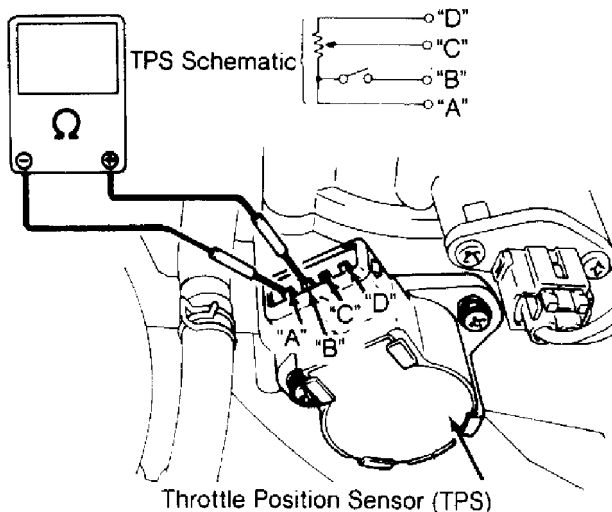

Fig. 15: Throttle Position Sensor (TPS) Term. ID (Swift SOHC Shown; Sidekick MPI Is Similar)
Disconnect negative battery cable. Unplug TPS connector. Using ohmmeter, check resistance between terminals of TPS connector. See Fig. 15. If idle switch check is not within specification, adjust TPS installation angle. See THROTTLE POSITION SENSOR (TPS) RESISTANCE table. Replace TPS if it cannot be adjusted to specification.
1) Unplug TPS connector, and loosen TPS mounting screws. Insert .024" (.60 mm) shim thickness gauge between throttle lever and throttle stop screw. Connect ohmmeter between TPS terminals "A" and "B". See Fig. 15.